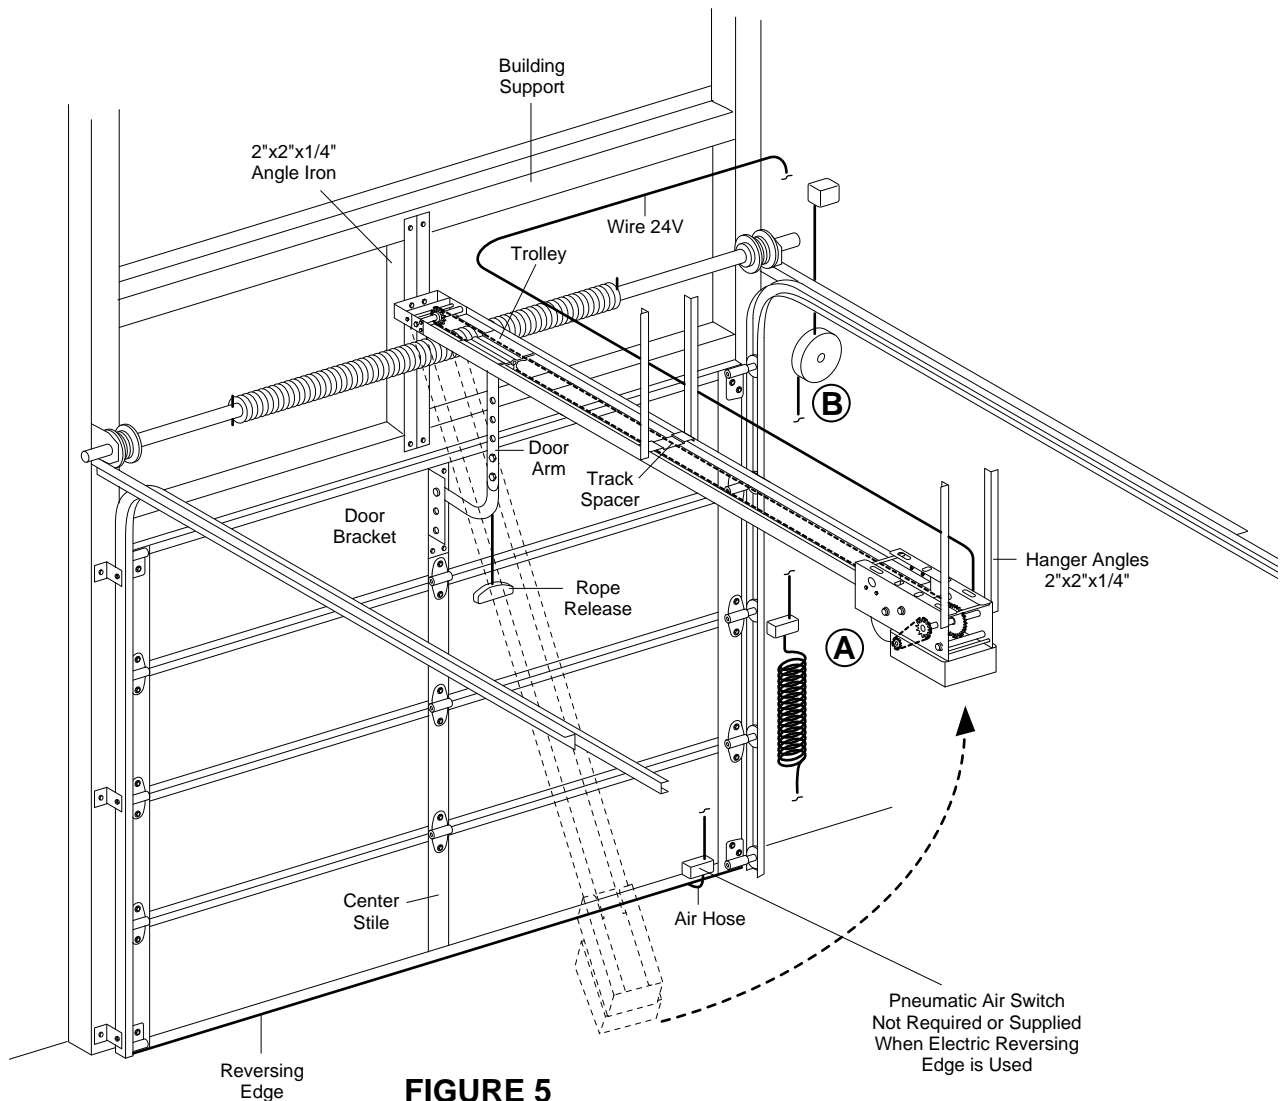

FIGURE 5
9. Raise operator straight up until the door can be raised to the full open position. See Figure 5. Temporarily secure to ceiling or rafters with rope or other suitable means.
The operator has been pre-wired to accept connection of a reversing edge device (Figure 5, page 4). Connect the normally open contacts to terminals T3 and T5 on the low voltage terminal block. A cut-off switch will de-activate the safety device during the last few inches of the door's downward travel.